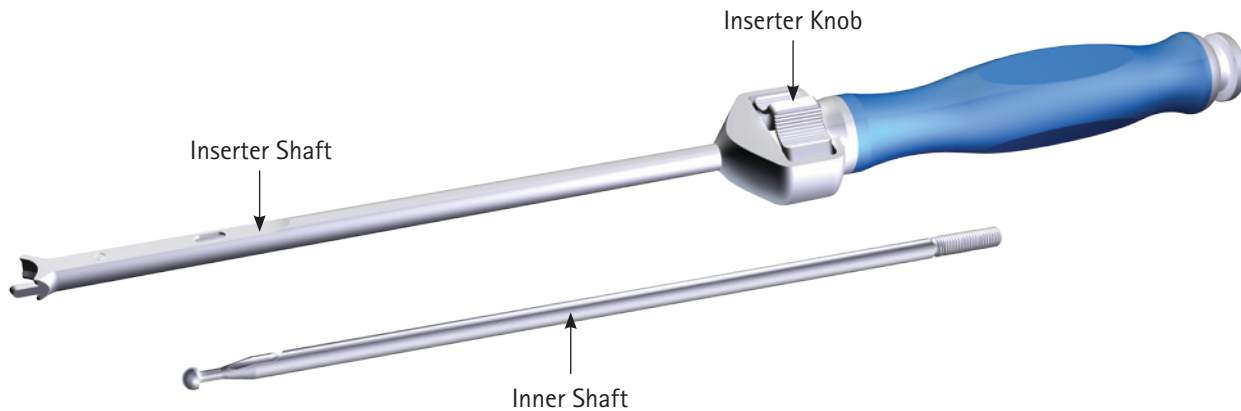

Fig. 13 - Assembly of the rigid inserter (ME927R)
(Fig. 13)
1. To assemble the inserter (Fig. 13)